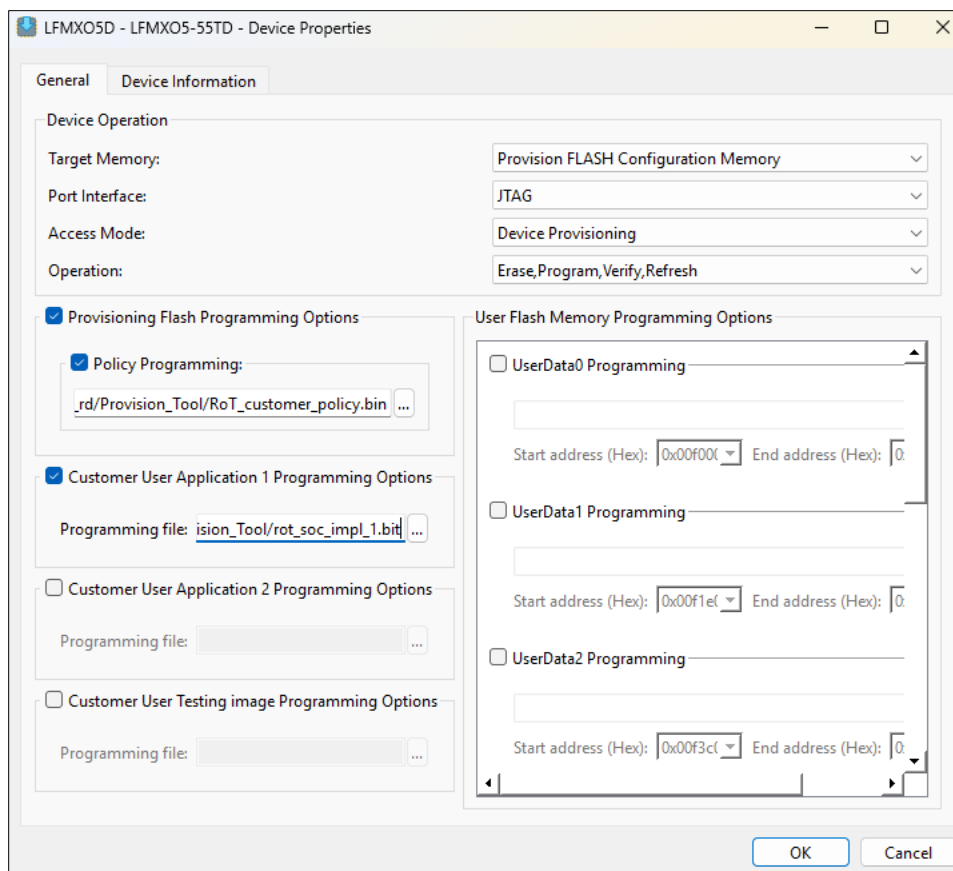

Figure 11.4. Radiant Programmer – Device Provisioning
- Open the **Device Properties** dialog and select the example policy and user bitstream file with the respective settings shown in Figure 11.4. Click the **OK** button to close the dialog box.